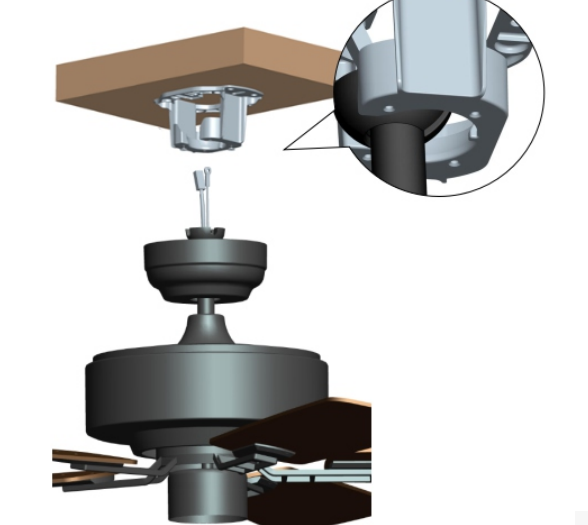

Fig 6.1
6.1 Hang the assembled ceiling fan on the mounting bracket that mounted to the ceiling as shown in **Fig 6.1**, pay attention to the enlarged image as shown in **Fig 6.1**. Install the ball end of the downrod into the opening of mounting bracket. Rotate the downrod until the tab in the mounting bracket is seated in the slot in the downrod ball.